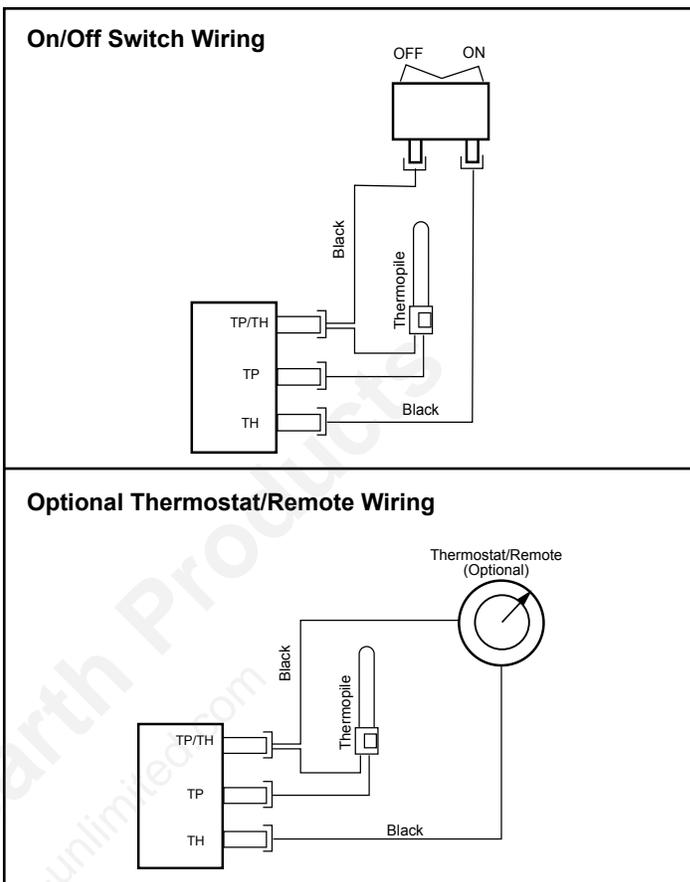

Figure 9 - ON/OFF switch and optional Thermostat/Remote wiring.
2. Connect the thermostat wires to the valve. (Figure 9)